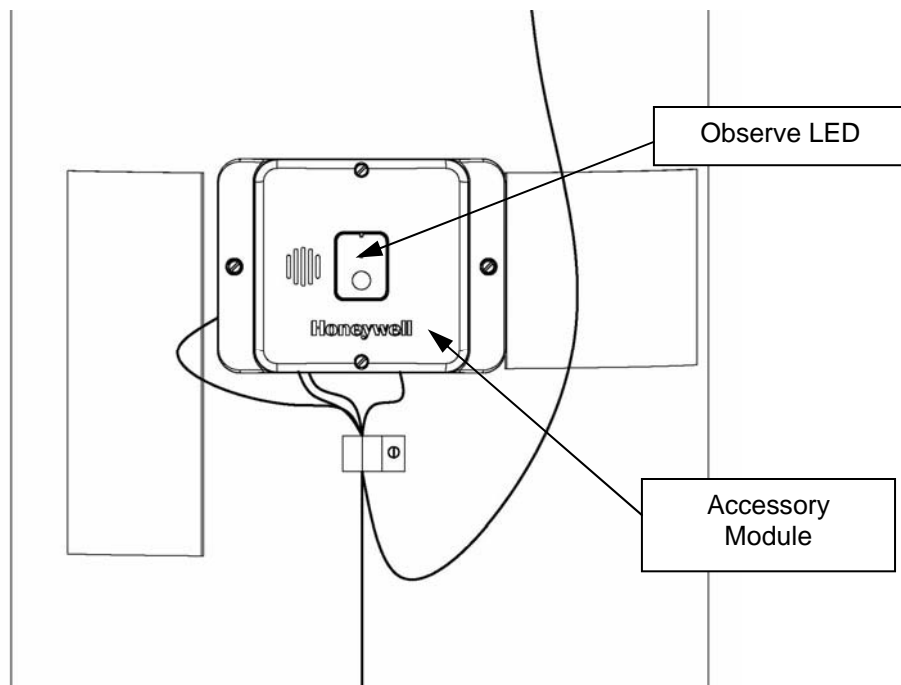

Figure 110
Step 9: If the Start-up Sequence results in a red LED strobe, the internal electronics on the Accessory Module failed. The Accessory Module must be replaced. This is shown in Figure 110.